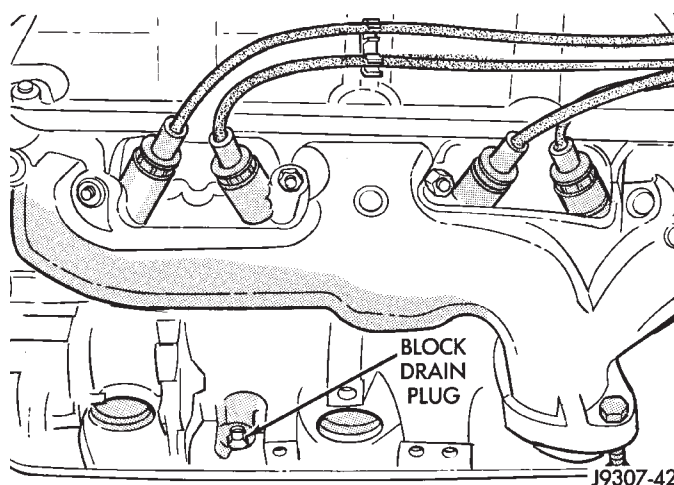

Fig. 20 Cylinder Block Drain Plug—3.9L/5.2L/5.9L Engines—Typical
- (1) Remove radiator pressure cap.
- (2) Loosen radiator petcock.
- (3) Remove cylinder block drain plugs. Refer to (Fig. 20).